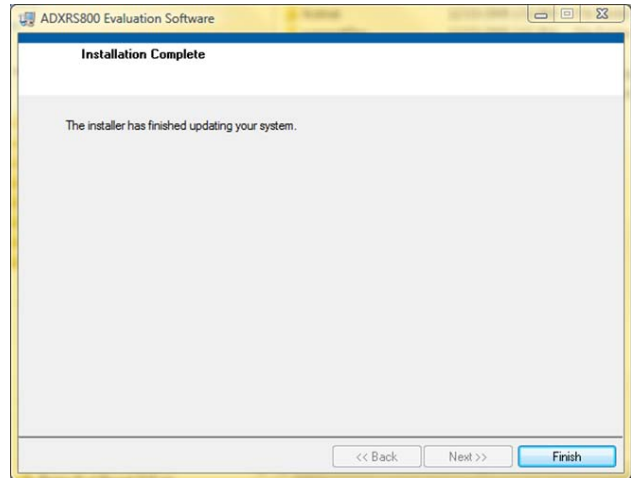

Figure 14. Installation Complete
4. To start the installation, click **Next**. The installer completes installation of the software evaluation GUI and all required National Instruments drivers and run-time engines. After the installation is complete, the box shown in Figure 14 is displayed.